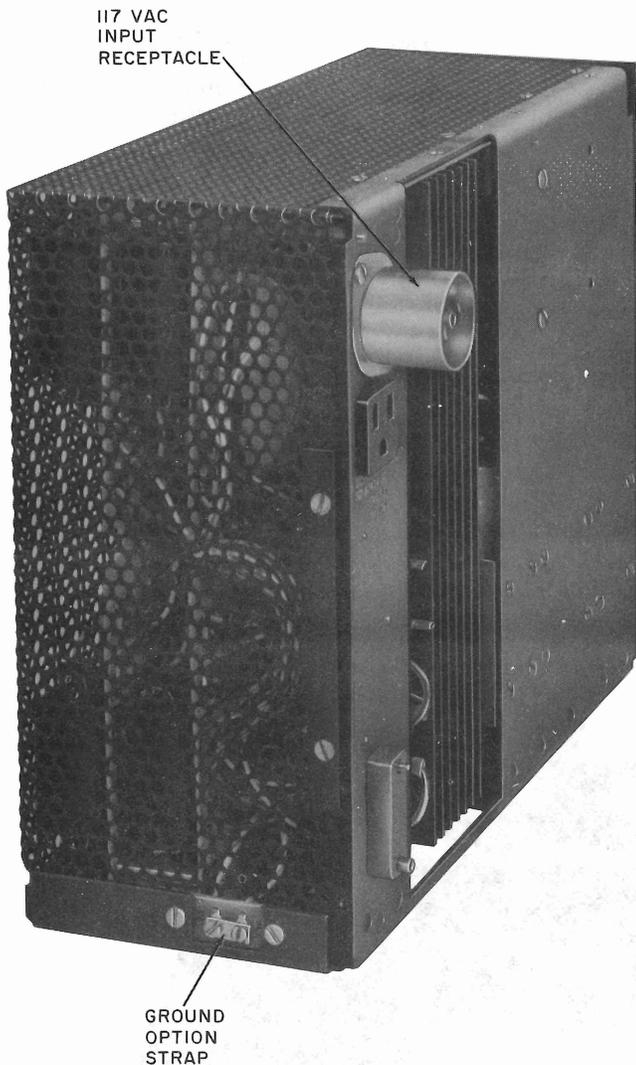

Fig. 6—229A Power Unit
2.07 The dc voltages are supplied to the data sets via the data mounting by the 229A power unit (Fig. 6). The 229A power unit is mounted on the right side of the data mounting. Four regulated voltages (+12, -12, +5, and -5 volts) are required for each DS 407CR. The 229A